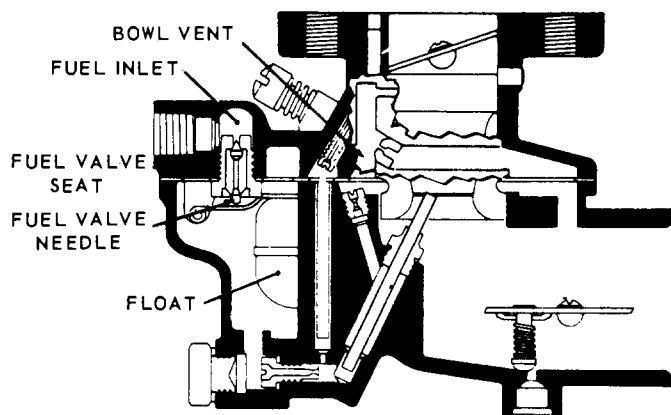

Fig. 1
**Fuel supply system, Fig. 1,** is made up of a threaded fuel inlet, fuel valve seat, fuel valve needle, float and fuel bowl. Fuel travels through the fuel valve seat and passes around the fuel valve and into the fuel bowl. The level of the fuel in the fuel chamber is regulated by the float through its control of the fuel valve. The fuel valve does not open and close alternately but assumes an opening, regulated by the float, sufficient to maintain a proper level in the fuel chamber equal to the demand of the engine according to its speed and load.